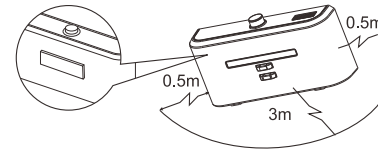

Figure 1
2. No obstacle or hollow areas 3m away from the Docking Station in the front and 0.5m on the right and left (Refer Fig 1).